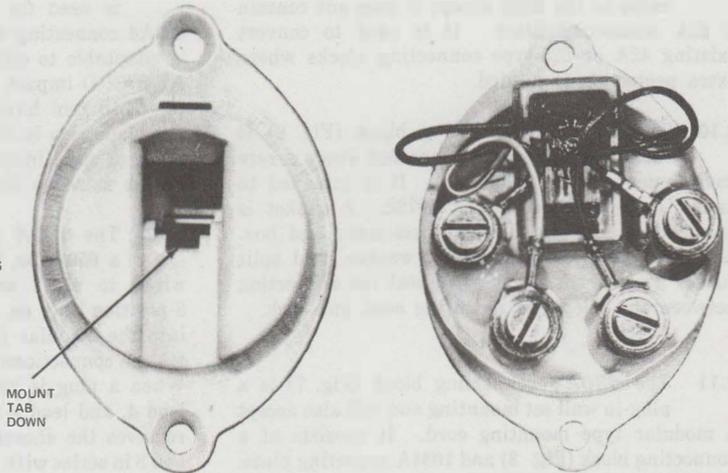

Fig. 3—625F Connecting Block (Without Mounting Hardware)◆
- Delete statement in Fig. 3 for optional installation of 625F connecting block in woodwork
- Block, Connecting, 625F (Fig. 3)
2.05 The **625F** connecting block (Fig. 3) is intended for use in new installations requiring a flush-type connecting block or for modular replacement of 548A jacks or 47F connecting blocks. It does not include faceplate or mounting bracket.